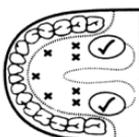

Figure 2
- Oral Use:** Place thermometer under tongue as indicated by "✓" position shown in Figure 2. Close your mouth and breathe evenly through the nose to prevent the measurement from being influenced by inhaled/exhaled air.